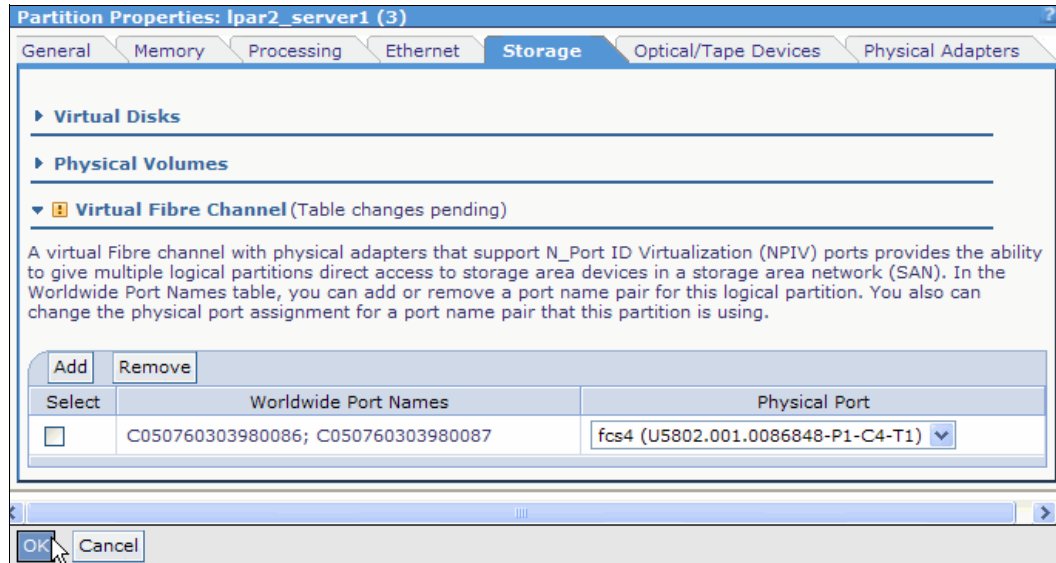

Figure 4-106 Applying a new physical port for a virtual Fibre Channel adapter
- There is an exclamation mark near the Virtual Fibre Channel menu in Figure 4-106. It means that the new configuration is pending. Click **OK** to apply the changes.